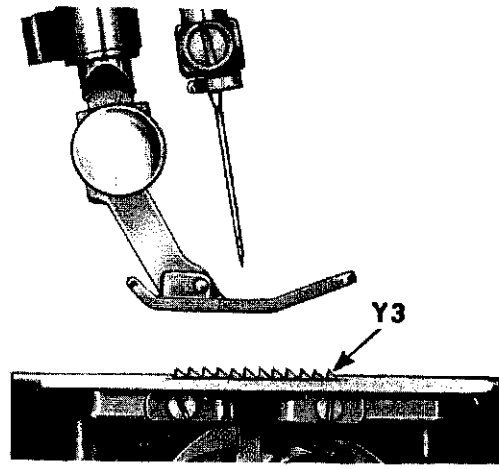
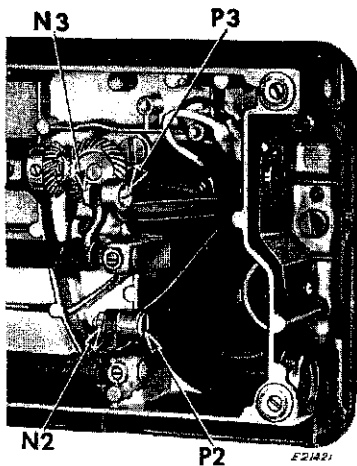

Fig. 13. Correct Height of Feed Dog
Fig. 14. Adjusting Feed Dog (Machine Having Standard Feed Rock Shaft)
3. Loosen nut N3, Fig. 14 and turn screw P3 to left or to right until teeth of feed dog project .043" above throat plate as shown at Y3, Fig. 13
4. Keeping screw P3 in position with a screwdriver, tighten nut N3, Fig. 14
3. Loosen nut N2, Fig. 14